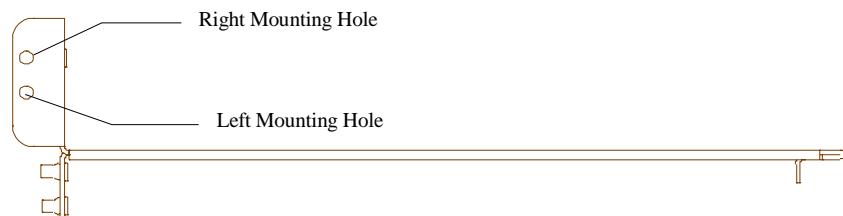

Figure 3 Permanent Divider Mounting Holes
| Figure 3 Permanent Divider Mounting Holes..... | 4 |
1. Install the kit provided Double Position Permanent Divider by using the left mounting hole in the divider (see Figure 3). Align the divider with the two cyan colored dots to the right.